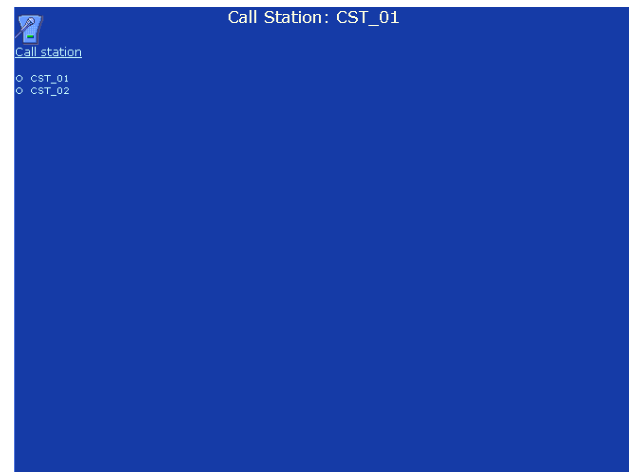

figure 38.57: Local BGM volume control, step 1
- Add/Remove buttons** - Using the > button, outputs selected in (2) can be added to (3). The < button removes outputs selected in (3) from (3).
- Go to *Configure > Action Programming > Call station*. A screen similar to the one in figure 38.57 appears in the main frame of the web interface.